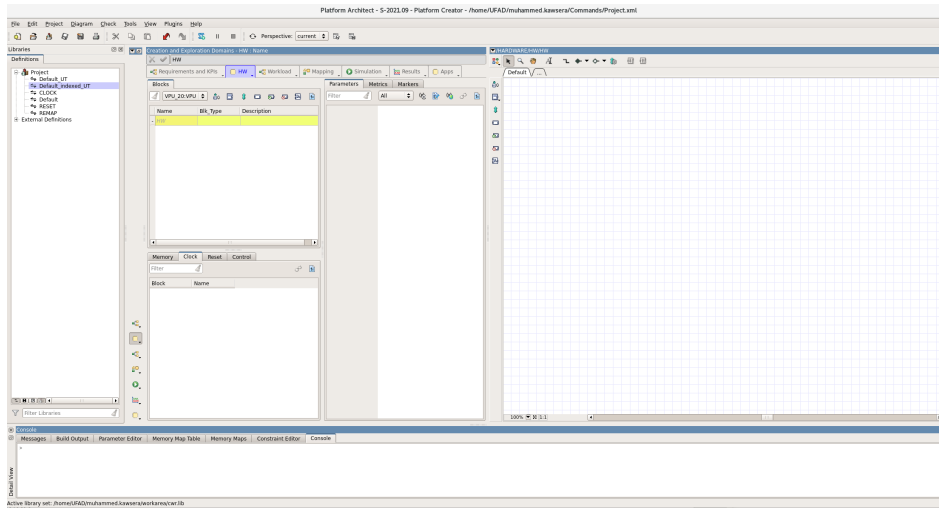

Figure 3: Initial Platform Architect Window
1. After launching the Platform Architect, it will appear as shown below (Figure 3) if no script file or project file is selected. This window is divided into several main areas: the Menu Bar, Toolbars, Library Browser, Central Area, and Details Area. Further details about these areas can be found in the official manual.